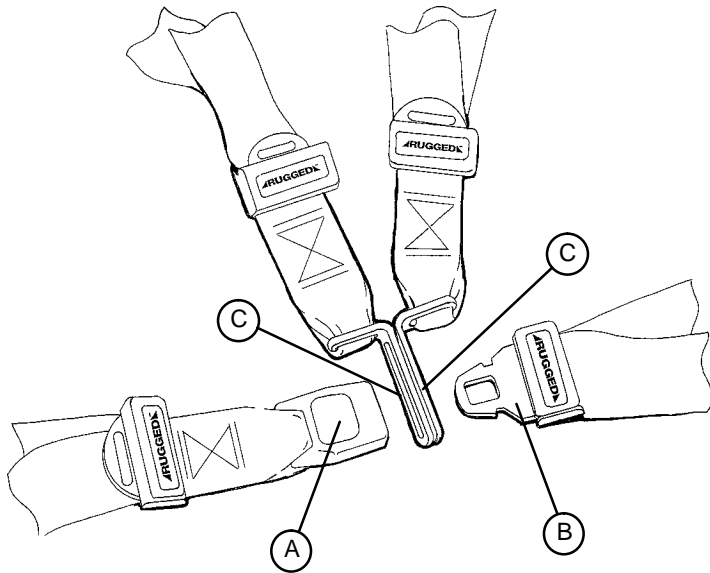

Figure 11 – Buckling the Restraints
To open the restraint, press the red button (A) on the front of the buckle "receiver". This releases the buckle "tang" (B) which can then be pulled out of the receiver (Figure 11).
To close the restraint, push the tang into the receiver until a "click" is heard. When fastening the chest restraint be sure the tang passes through both links (C) on the shoulder strap (Figure 11).